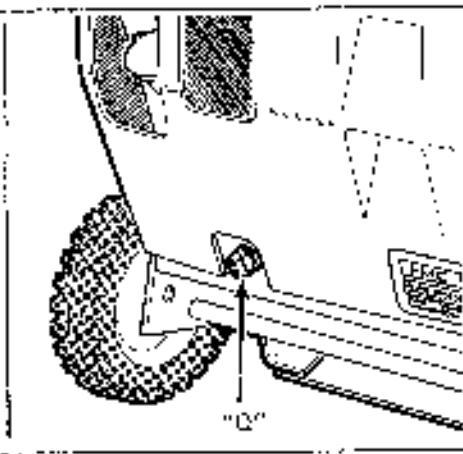

Fig. 12
2 CYCLE ENGINE - The engine has been pre-set to run at 4300 RPM. Through opening (C), Figure 12, in hand side of machine, turn the mixture adjusting screw (D) (using a screwdriver) to regulate flow of fuel to the engine.